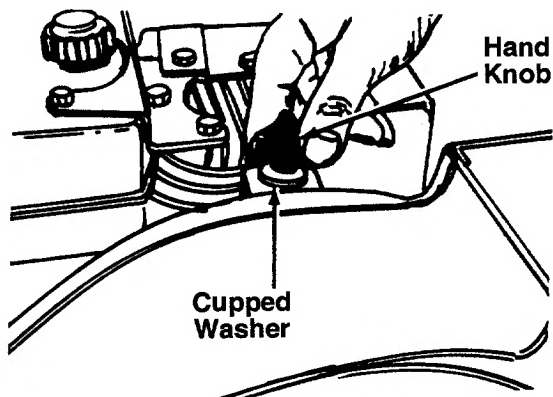

FIGURE 12.
3. Remove the hand knob and cupped washer which hold the housing to engine brace. See figure 12.